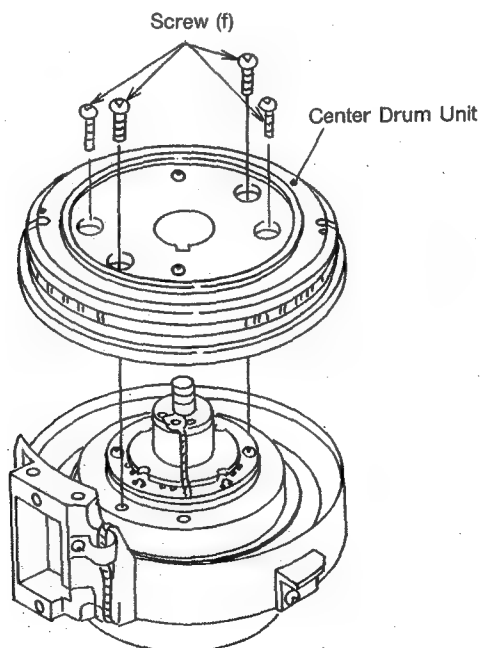

Fig. 7-6-1
- 1) Remove 4 pcs of screw (f) as shown in figure 7-6-1.